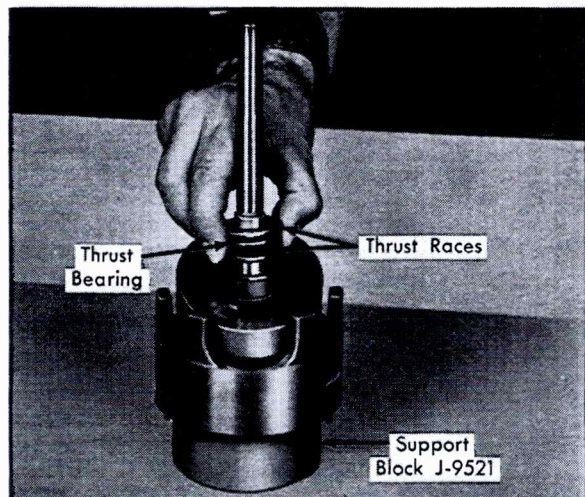

Fig. 1-61 Removing Front Thrust Races and Bearing
11. Remove front combination of thrust races and thrust bearing from shaft, Fig. 1-61. Discard races and place bearing in front bearing slot of Parts Tray.